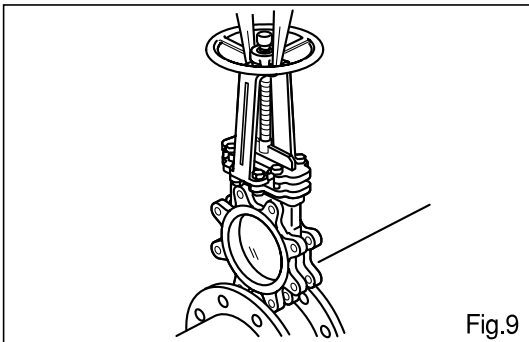

Fig.9
3. **Valve installation** : Use nylon sling at valve neck to lift the valve with balance to avoid damage. Avoid using actuator to lift the valve up. Do not stand under the valve. Install the valve as not to damage the installation surface. (Fig.9)